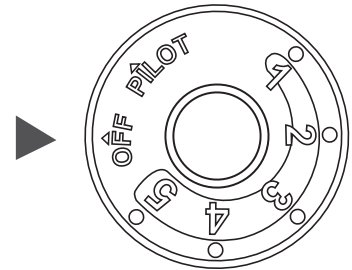
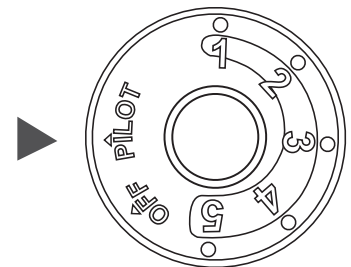

Fig. 22b
Fig. 23b
3. Turn control knob clockwise ↷ to OFF "○" position. (See Fig. 22b)
4. Wait (5) minutes to clear out any gas. Then smell for gas, including near the floor. If you smell gas, STOP! Follow "B" in the safety information above. If you don't smell gas, go to the next step.
5. Turn knob counterclockwise ↶ to the PILOT "⊗" position. (See Fig. 23b) Depress control knob.